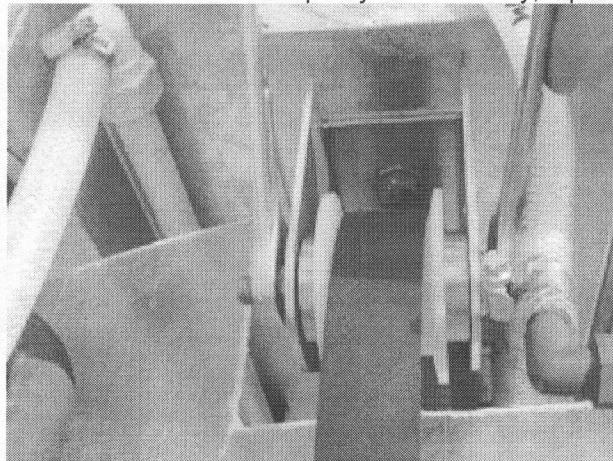

Fig. 058.1
3. Loosen deflection pulley screw. Finally, replace roller (Fig. 058.1/058.2).